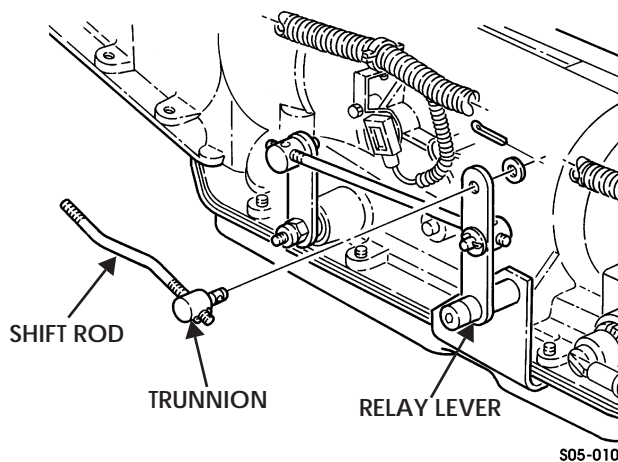

Figure 5-71: Relay Lever
19. Install shift rod and trunnion on relay lever with washer and cotter pin (Figure 5-71).